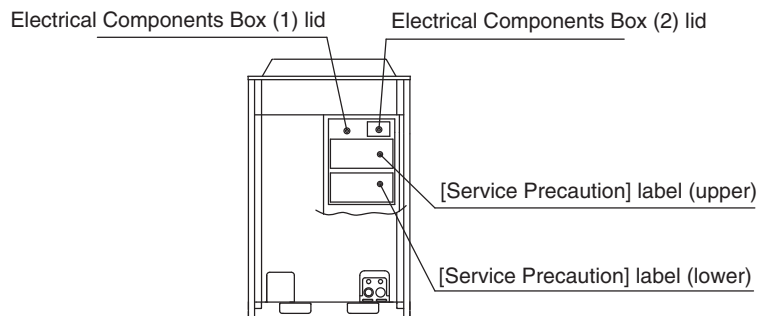

fig. 8
3. Perform the check operation following the Check Operation Method of the [Service Precautions] label (lower) on the Electrical Components Box lid. (See figure 8) The system operation for about 40~60 minutes and automatically stops the check operation.